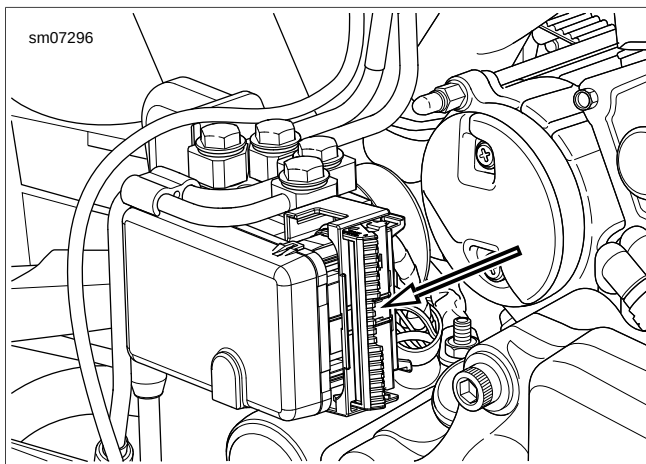

Figure A-70. Tyco MCP Connector Release Bar
**Separate:** See Figure A-70. Press and hold the lock tab. Pulling on both ends of the lever, open the lever.